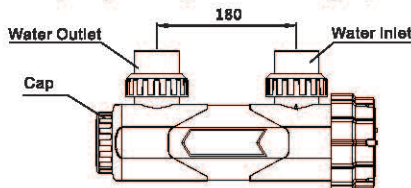

Figure1-2
- Two optional outlets make installation more convenient. (see figure 1-2,1-3).